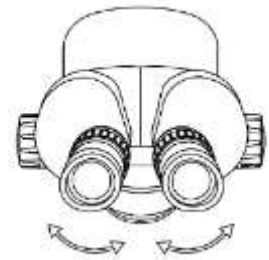

Fig. 1
3.2 Pull the Porro prism base slightly with both hands(fig.1) to adjust the distance of the eyepieces to your interpupillary distance;